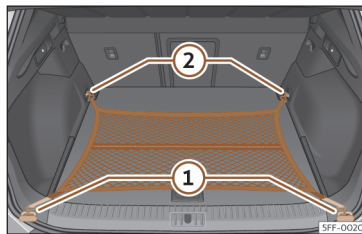

Fig. 194 In the boot: net bag hooked up at floor level.
- Secure the net hooks to the fastening rings >>> **Fig. 194** ① and ② >>> ⚠. The bag zip should be facing upwards.